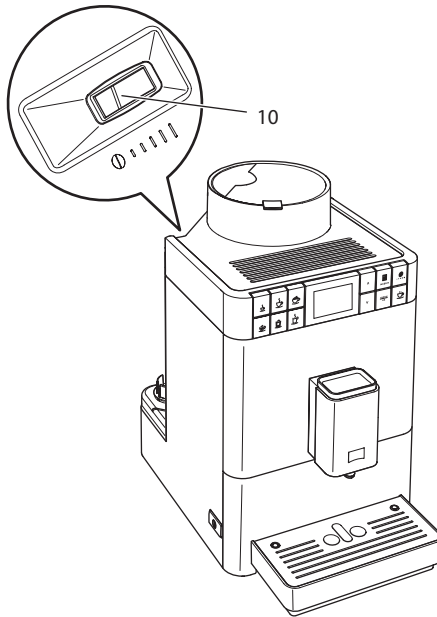

Fig. 16: Lever for setting the grinding fineness
- » The "Grinding fineness adjustment" lever (10) is visible on the housing.
2. Move the lever to the left or right, as shown on Fig. 16.